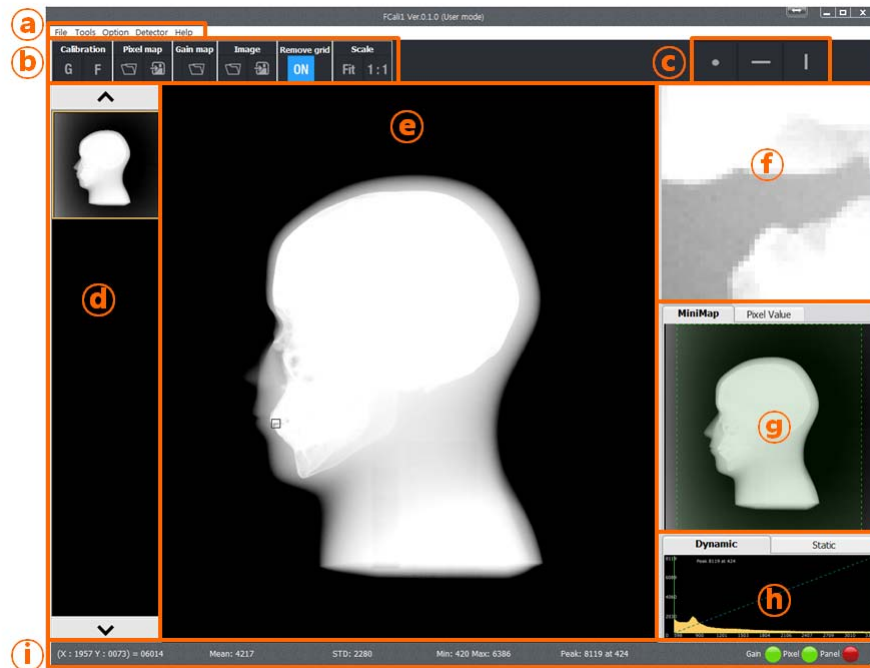

Figure 7.27. Main Screen of ECali1
Corresponds to ④ in [Figure 7.27] and comprised of 5 menus, which are File, Tools, Option, Detector and Help.
Corresponds to © and ƒ in [Figure 7.27], and utilized when creating a Pixel Map.